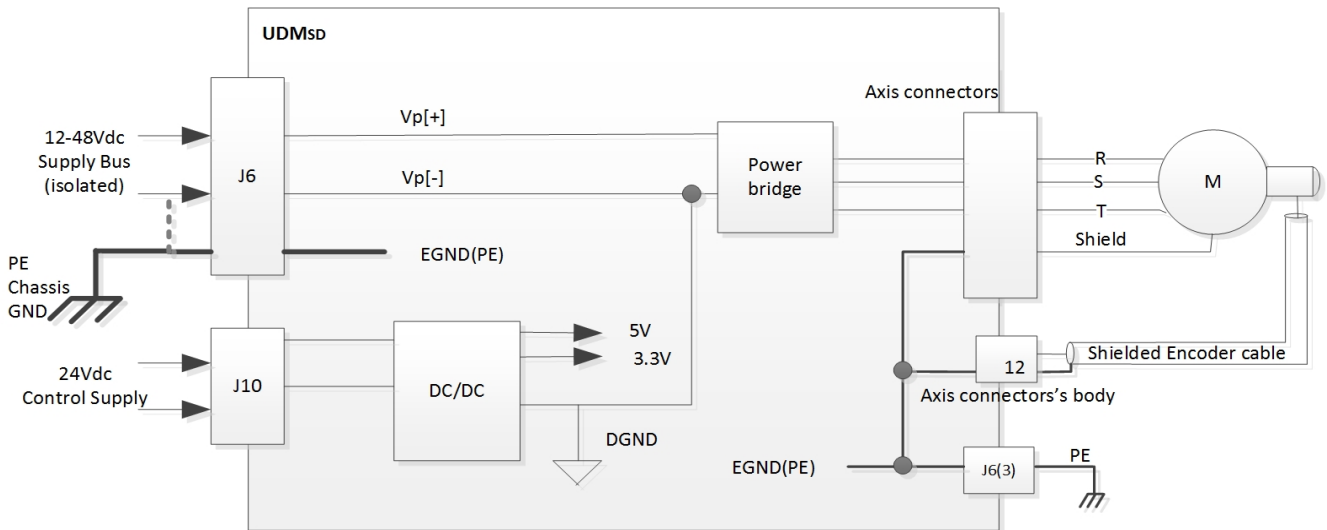

Figure 17-1. Grounding and Shielding
Figure 17-1 depicts the recommended scheme for shielding and motor cable connections.
The digital ground (DGND) is shortened internally to Vp[-] line. In order to reduce system noise, the user may elect to connect this common signal of Vp[-] and DGND to the EGND(PE) externally, by shortening pins 2 and 3 in the J6 connector, as depicted in Figure 17-1 below by the dashed line. It should be noted that for safety standardization testing mandate to have a separation between these signals.